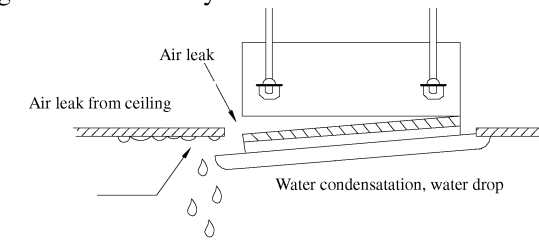

Fig.10
1. Improper screwing of the screws may cause the troubles shown in fig.10.